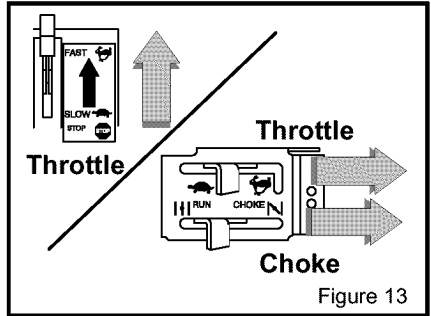

Figure 13
2. Then, move the **throttle control lever** to the **STOP** position (Figure 13).
5. Move the **throttle control lever** (if equipped) to the **FAST** position (Figure 13).
6. Move the **choke control lever** to the **CHOKED** position (Figure 13).